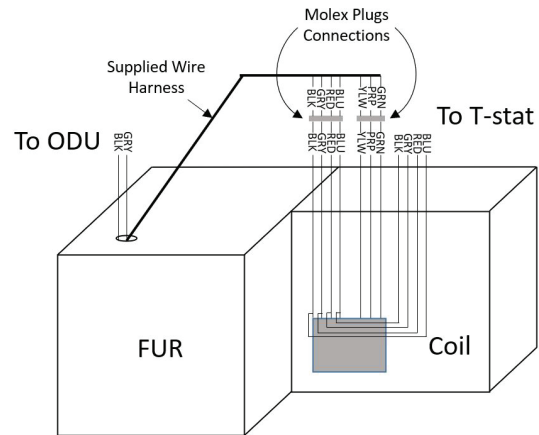

Figure 28
8. View Figure 28 for reference of Wire Harness Setup.
Typical wiring will consist of two wires between the indoor unit and outdoor unit and four wires between the indoor unit and thermostat. Figure 28 shows the required wires are: data lines, 1 and 2; "R" (24 VAC hot) and "C" (24 VAC common).